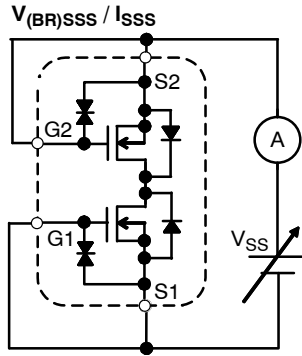

Figure 1. Test Circuit 1
| Source to Source Breakdown Voltage          | V (BR)SSS | I S = 1 mA, V GS = 0 V (Figure 1)                           | 20   | –    | –    | V    |
| Zero-Gate Voltage Source Current            | I SSS     | V SS = 20 V, V GS = 0 V (Figure 1)                          | –    | –    | 1    | μA   |